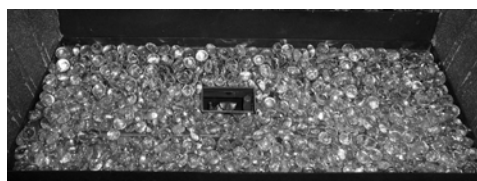

Figure 59: Glass Beads in Place.
6. Pour the glass beads into the tray and evenly distribute over the entire tray (See Figure 59).